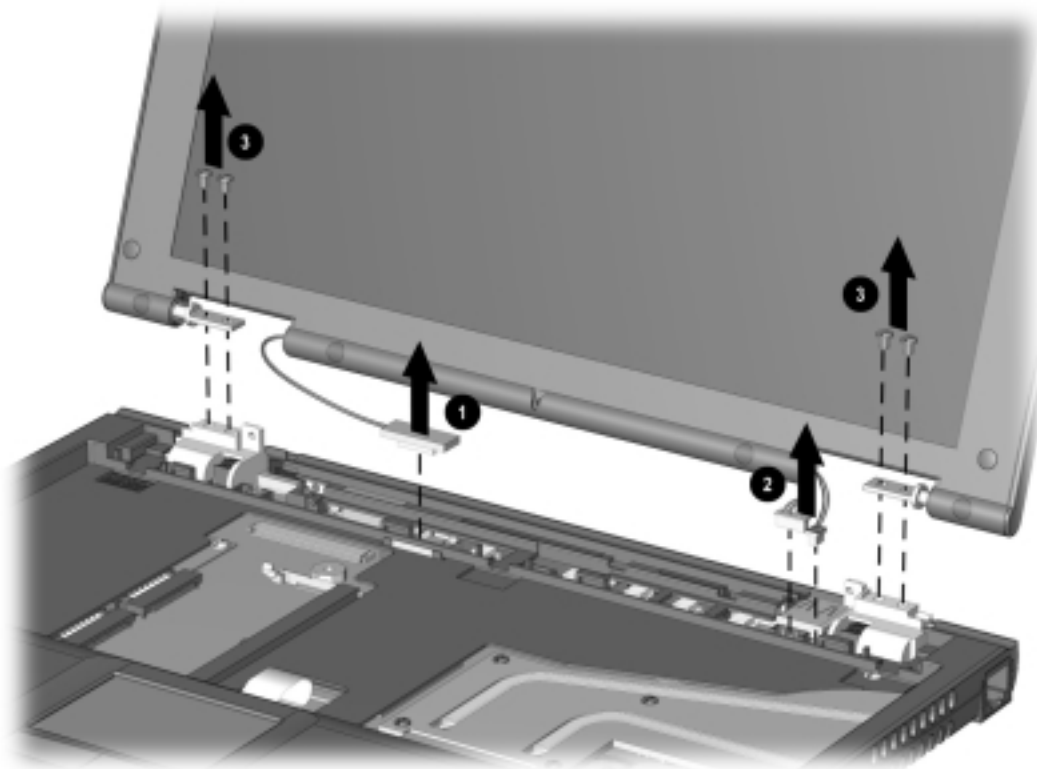

Figure 5-20. Removing the Display Assembly
4. Use the connector removal tool to disconnect the inverter cable ❶ from the system board (Figure 5-20).
5. Use the connector removal tool to disconnect the microphone cable ❷ and the video cable ❸ from the system board.
7. Remove the four screws (two on each hinge) ❸ that secure the display assembly to the base assembly.